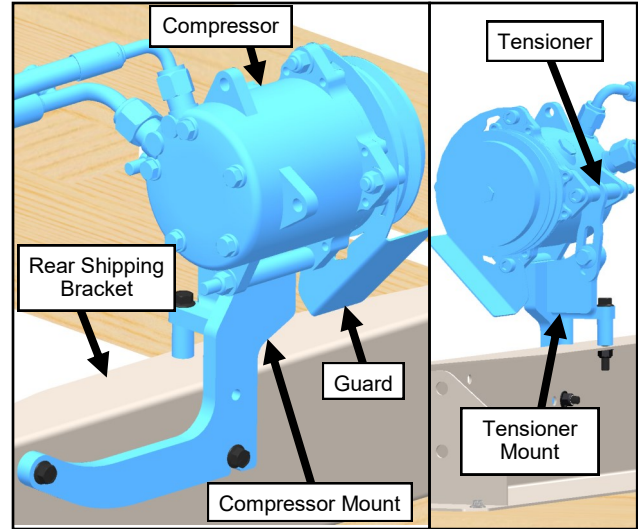

Fig. 1.31 (Remove Compressor Mount)
**1.31** Remove compressor (with guard and tensioner) from the compressor and tensioner mounts and keep the three 3/8" screws and three 3/8" nuts with compressor. Support the compressor using a bungee cord or rope. Do not ever use the hoses to support the compressor or damage may occur. Next, remove compressor and tensioner mounts from rear shipping bracket and discard the three 5/16" screws and three 5/16" nuts. See Figure 1.31.